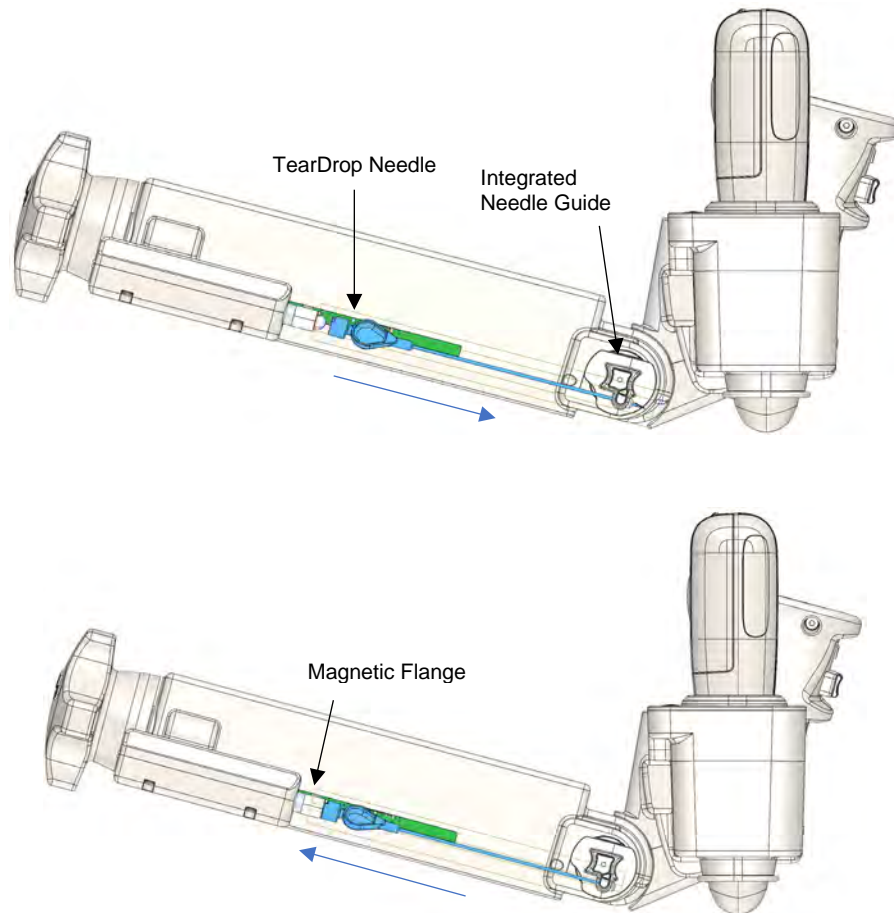

Fig. 20. Needle Assembly Attachment.
3. Position the TearDrop Needle tip into the CERTA Integrated Needle Guide, and then, magnetically attach the proximal end of the TearDrop Needle to the flange of the draped CERTA Access Device (Figure 20). Rotate the TearDrop Needle as needed until it locks into position.